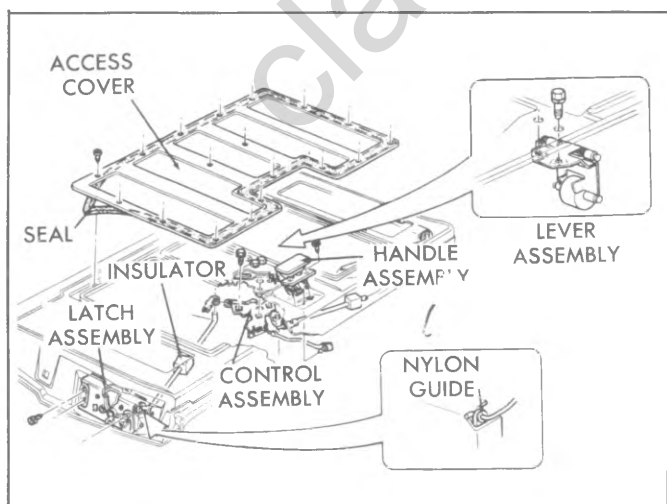

Fig. 2D-58--Latch and Remote Controls--(06 Only)
5. Remove R.H. torque rod bracket screws, figure 2D-57, then remove torque rod from endgate.
6. Remove screws connecting cam assemblies to sash assembly, figure 2D-59, then remove cam assemblies.
9. Remove screws connecting window regulator assembly to endgate, figure 2D-59, and remove regulator.